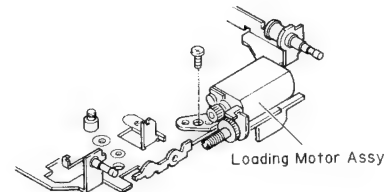

Fig. 14
12. Remove the screw, and then remove the loading motor assy.(Fig. 14)